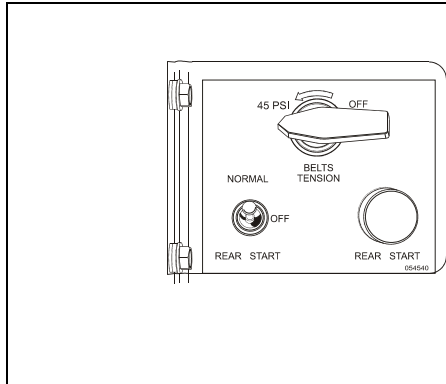

FIGURE 1: PRESSURE RELEASING VALVE H3 & VIP
1. Inside the engine compartment, release pressure from the air bellows by turning the belt tensioning pressure control valve handle to OFF (figure 1 & 2).